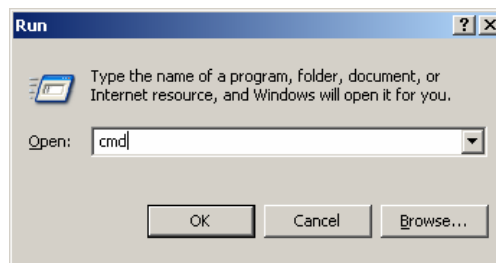

Figure 1-146. Run ... Window
2. The "Run" popup is displayed (Figure 1-146). Type in **cmd** and click on **OK**.